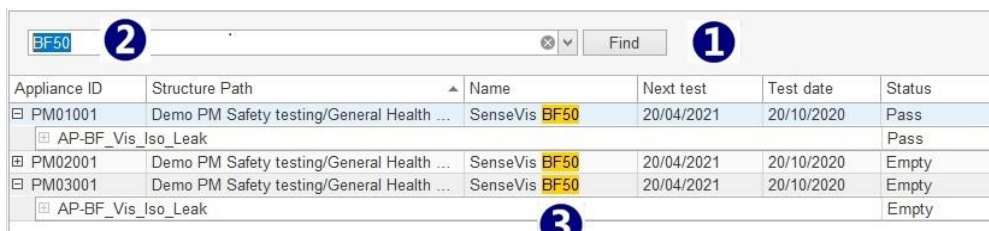

Figure 6.18: Appliance data Find filter design options
- Find panel : Right click within Results view area to open a menu window and check Find panel option. Field for Find filter is opened at the top of Result view area (❶), see Figure 6.18.
- Filter the table to only rows that contain the chosen string (❷). Search is started when Find button is clicked.
- Appliances table is filtered to the rows containing the string. (❸). The string appearances are highlighted.